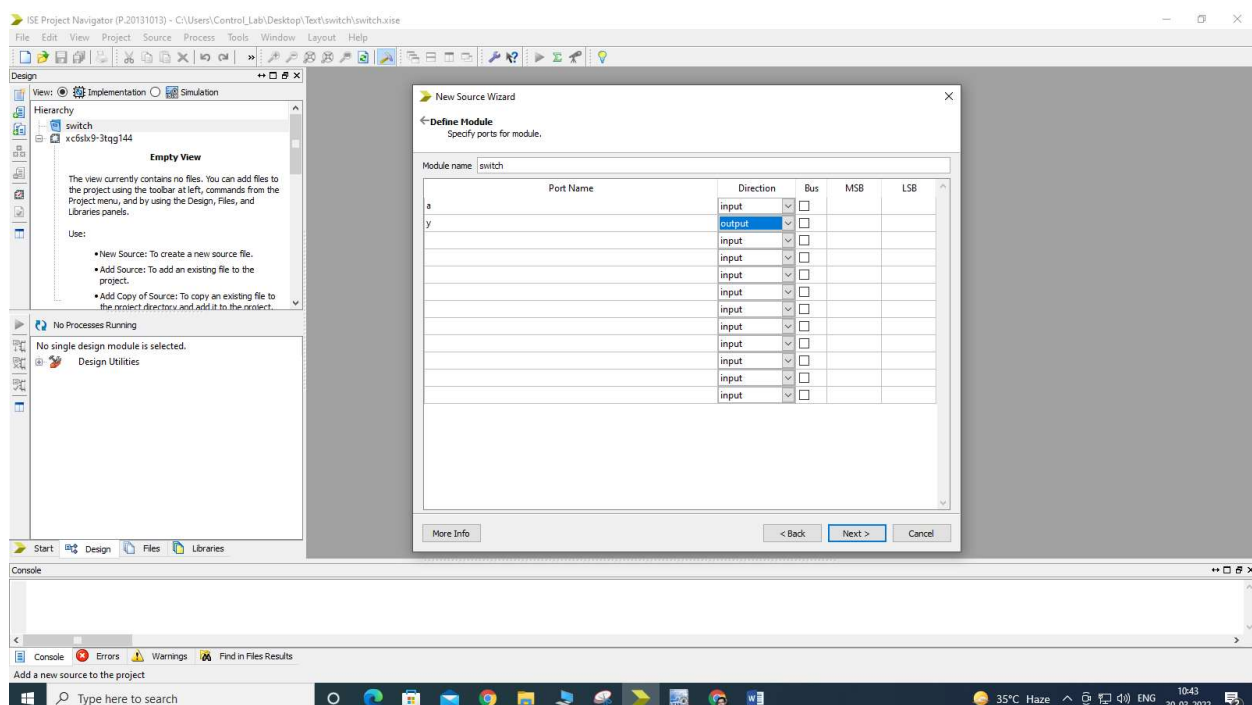

Fig 1.7: Define Module window
8. In the **Define Module** page, enter the port information for the “switch” as follows (Fig 1.7):